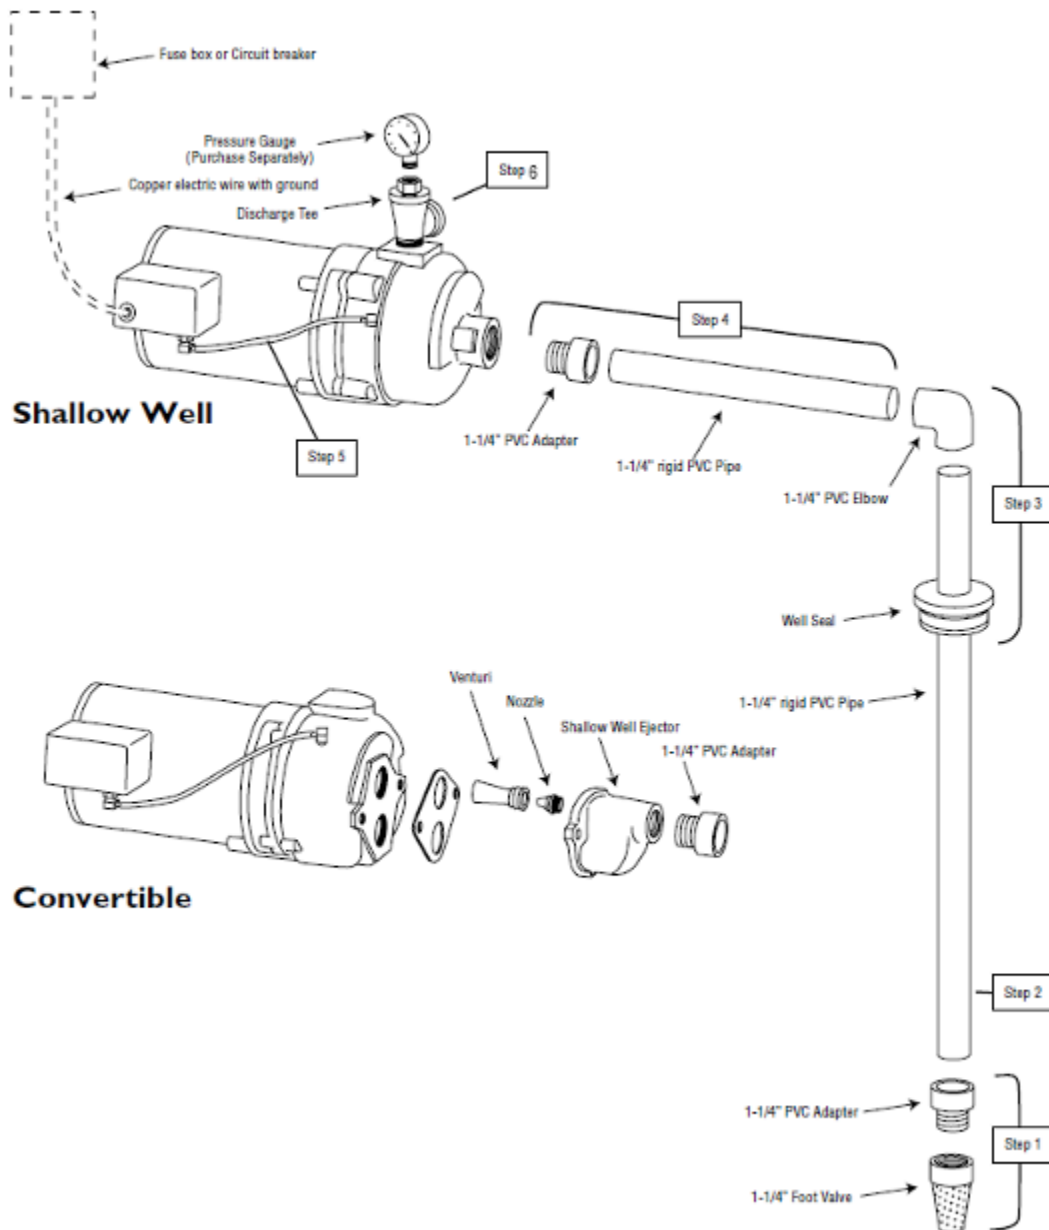

Figure 62. Shallow well pump installation
Before beginning the installation be sure to complete the installation preparation checks. Some pump assembly may be required. For example, you might need to connect the ejector onto the pump body for a convertible style of jet pump. Make sure that the pump foundation is firm and level. Secure the pump to the foundation. If the pump is near or in the house, place a rubber mat or under cushion between the pump and foundation to help deaden pump noise. Locate the pump as close to the well as possible to minimize friction losses. Refer to Figure 62 for these typical shallow well installation instructions.
- Figure 62. “Shallow well pump installation” from Pentair Myers is used and adapted for educational purposes under the basis of fair dealing.